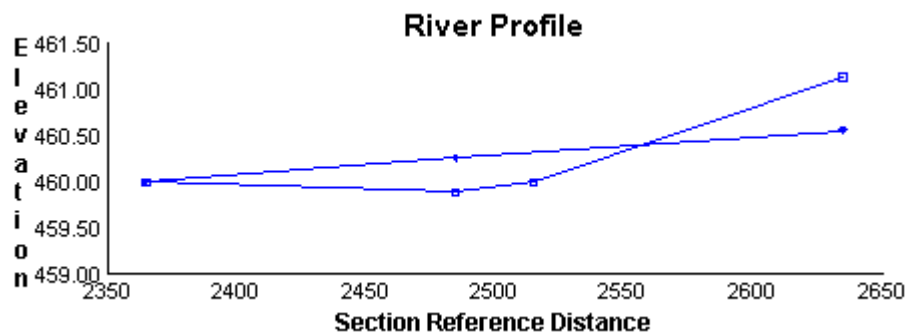

Figure 15-7 The Unconstrained vs. Constrained water surface.
4. Click the *Done* button to update the *Plot Window* as shown in Figure 15-7.